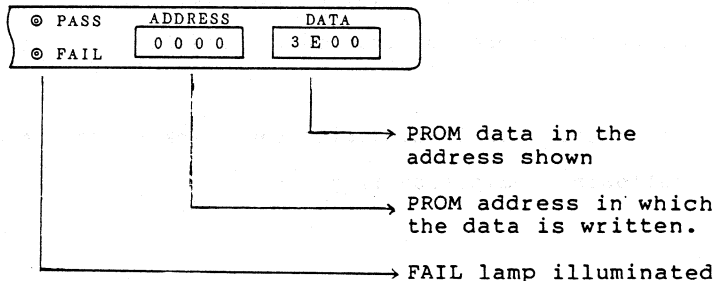

Fig. 4.7
- ① Press the BLANK key. This causes the BLANK lamp to light.
- ② Press the START key. With this, the Blank Check command is executed. If the PASS lamp lights after the execution, it means that the PROM has been erased. If the FAIL lamp lights during the operation as shown in Fig. 4.7, it means that data has already been written in the address shown.
If the FAIL lamp lights during the execution, it means that the error shown in Fig. 4.7 has been found. In this case, press the RESET key to place the system in the command wait state. No other key entries are accepted.